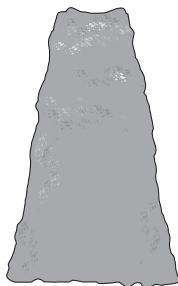

Fig. 8
**NOTE:** When shaping it is advisable to achieve a trapezoidal shape (Fig. 8). A trapezoidal cut corresponds to the natural growth of plants and results in optimal hedge growth, as it will expose more light to the lower end of the hedge.